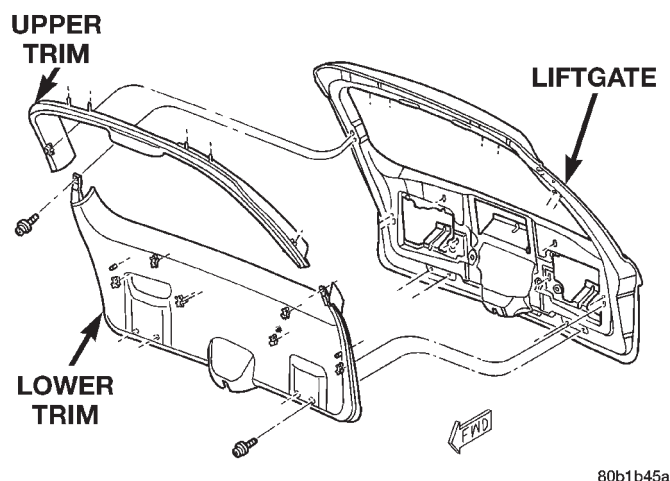

Fig. 68 Liftgate Trim Panel
- (1) Pull upper trim outward to disengage spring clips.
- (2) Separate upper trim from liftgate.
- (3) Remove screws attaching lower trim to liftgate (Fig. 68).
- (4) Pull lower trim outward to disengage spring clips.
- (5) Disconnect liftgate lamp wire connector.
- (6) Separate lower trim from liftgate.
- (1) Position lower trim at liftgate.
- (2) Connect liftgate lamp wire connector.
- (3) Align lower trim on liftgate and press inward to engage spring clips.
- (4) Install screws attaching lower trim to liftgate (Fig. 68).
- (5) Position upper trim on liftgate.
- (6) Align upper trim to liftgate and press inward to engage spring clips.